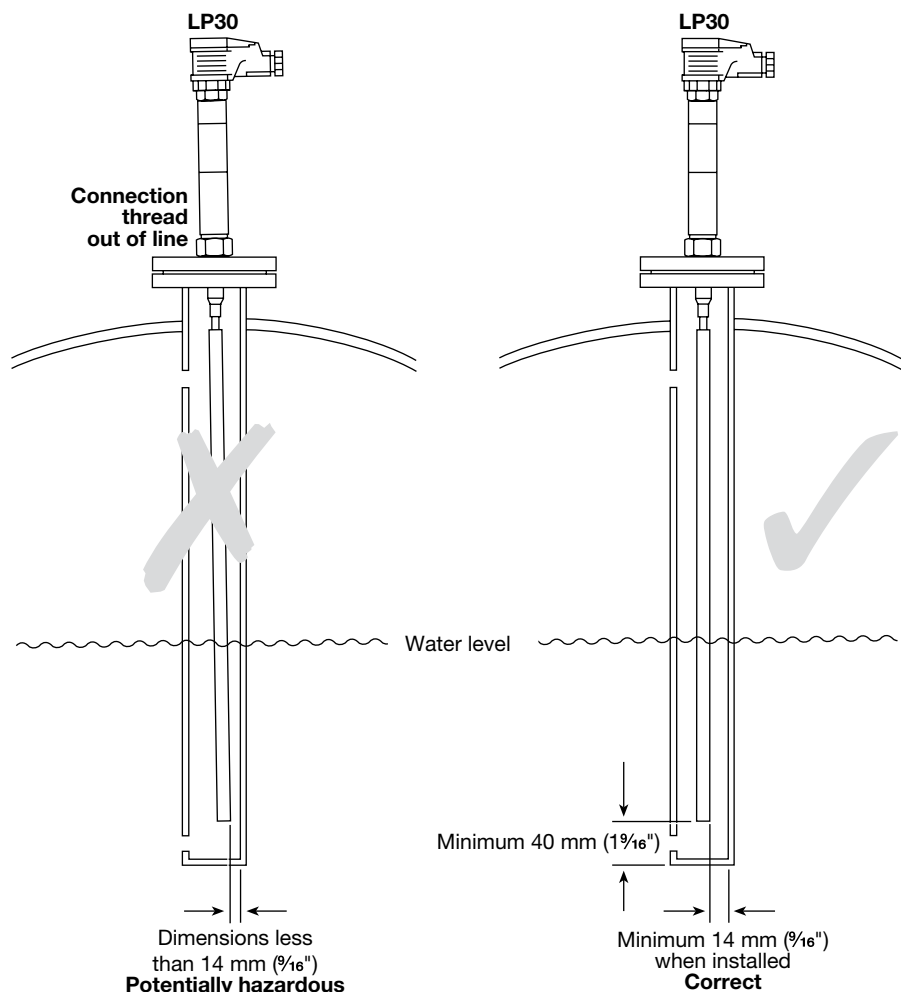

Fig. 12
When correctly carried out, the test will ensure that the final probe tip position is at least 14 mm ($\frac{9}{16}$ ") from the protection tube. See Figure 12.
- Protection tube not of large enough bore and/or not deep enough (the tube should be at least 40 mm ($1\frac{1}{16}$ ") deeper internally than the end of the probe, see Figure 12).